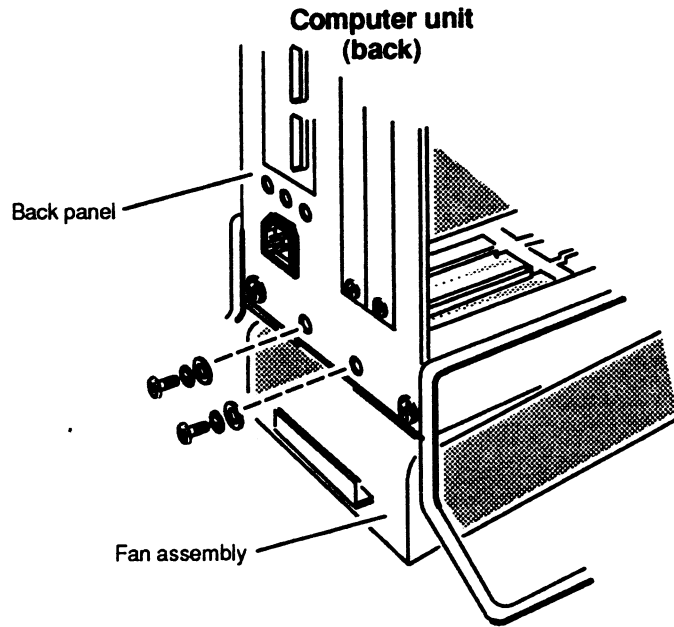

Figure 6-13 Releasing the Fan Assembly from the Back of the Computer Unit
2. Support the bottom of the back of the fan assembly. Using a medium Phillips screwdriver, remove the two screws and washers that secure the fan assembly to the back of the computer unit as shown in Figure 6-13.